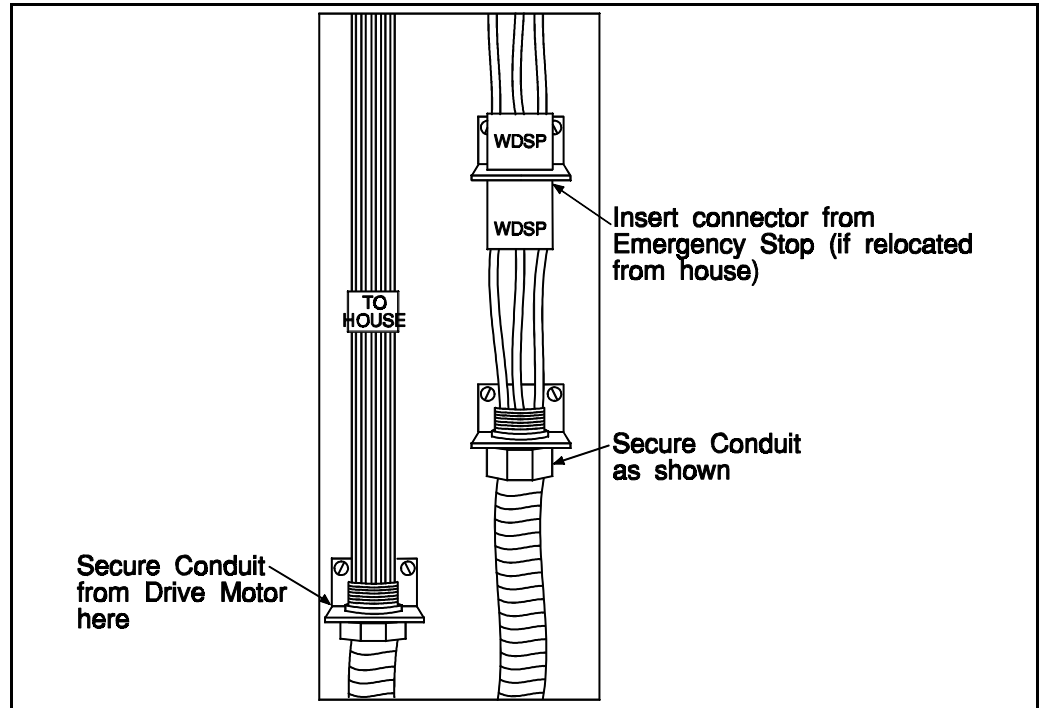

FIGURE 14 (MSIN0108AE)
1. Secure the conduit and connector (located in the Electrical Access Compartment) as shown in FIGURE 14.